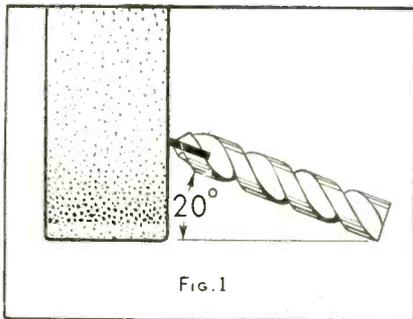

Fig. 1
1. Bring the drill against the side of the grinding wheel at a 20 degree angle as shown in *Fig. 1*. This 20 de-